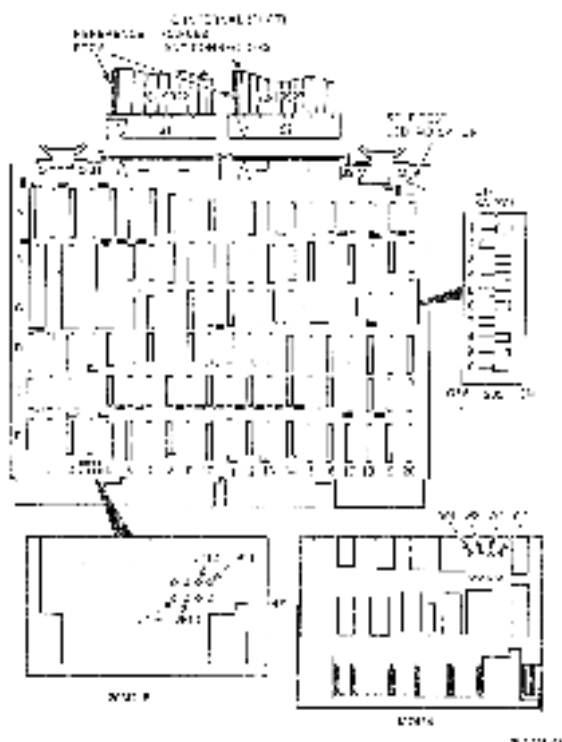

Figure 2-3 MD4541 INTEL 4-chip Module
2. On the M7454 adapter module, make sure selections are correct for the UNIBUS address, interrupt vector, and word burst size using 10-position DIP switch in location 20C (Figures 2-3 and 2-4).